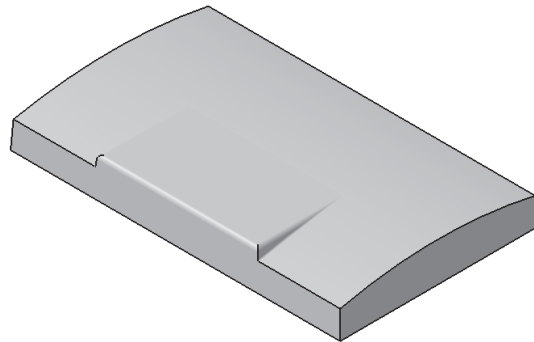

**Figure 5-95** The model, after filleting the first set of edges
3. Choose the **OK** button from the **Edge Fillet Definition** dialog box. The model, after filleting the first set of edges, is shown in Figure 5-95.